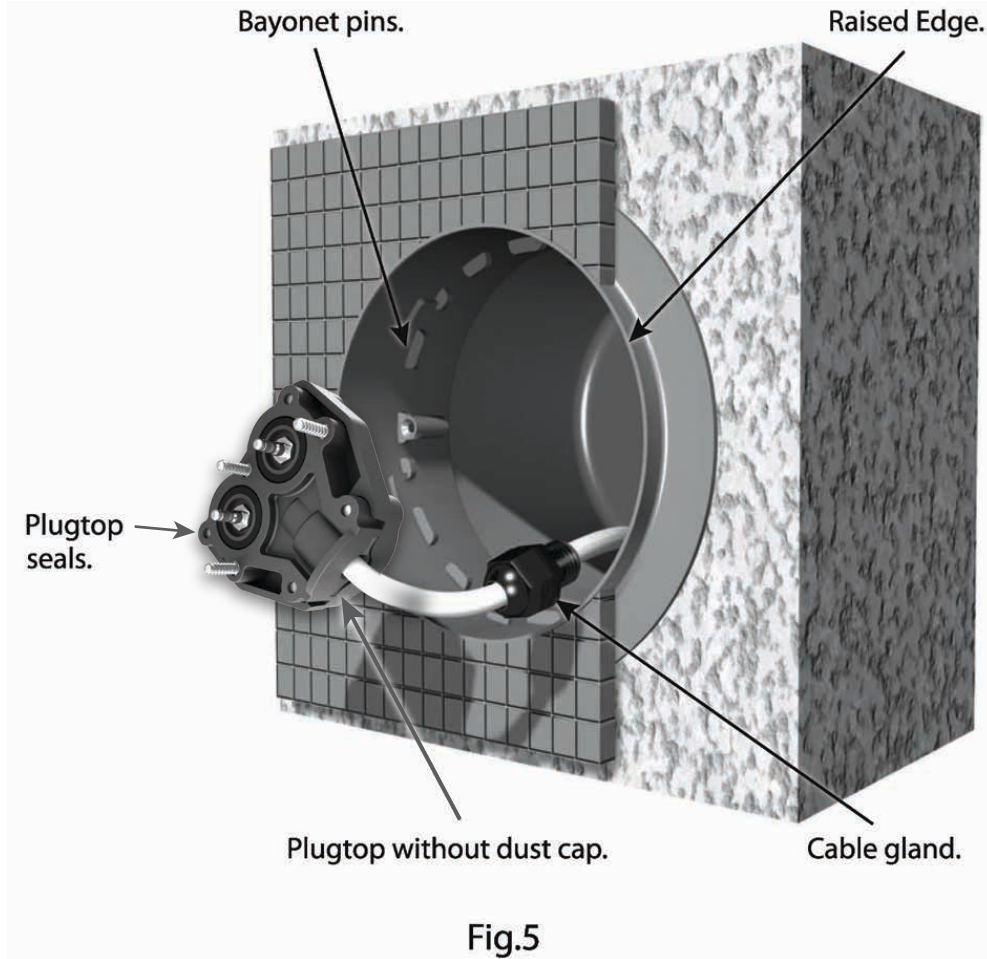

Fig.5
**CAUTION:** Do not install the light until after the pool has been acid washed. (Fig. 5)
Attach a second conduit to return below ground level and to the location of the transformer. Conduit should contain a draw wire and be covered with a draw box. (Part no. SE5) or similar, to allow access. (Fig. 5)